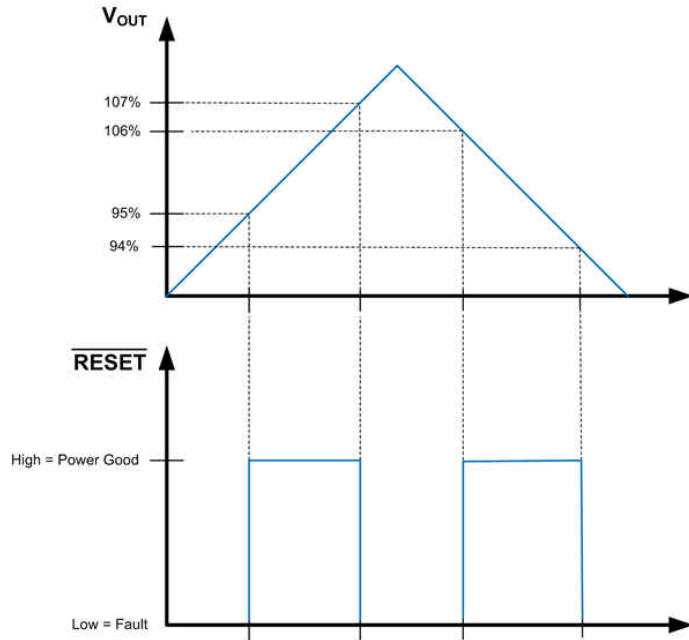
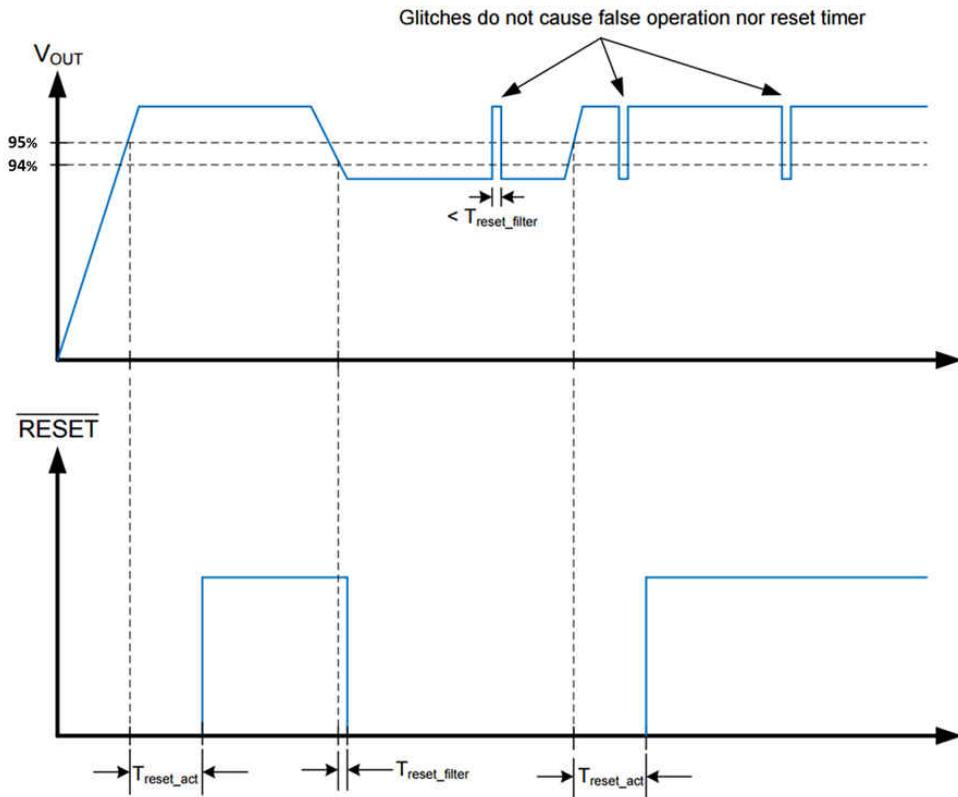

Figure 8-2. Static RESET Operation
Figure 8-3. RESET Timing Behavior
The  $\overline{\text{RESET}}$  function, built into the LM53625/35-Q1, has special features not found in the ordinary Power-Good function. A glitch filter prevents false flag operation for short excursions in the output voltage, such as during line and load transients. Furthermore, there is a delay between the point at which the output voltage is within specified limits and the flag asserts Power Good. Because the  $\overline{\text{RESET}}$  comparator and the regulation loop share the same reference, the thresholds track with the output voltage. This allows the LM53625/35-Q1 to be specified with a 96.5% maximum threshold, while at the same time specifying a 94 % worst case threshold with respect to the actual output voltage for that device. This allows tighter tolerance than is possible with an external supervisor device. The net result is a more accurate Power-Good function while expanding the system allowance for transients, and so forth.  $\overline{\text{RESET}}$  operation can best be understood by reference to Figure 8-2 and Figure 8-3. The values for the various filter and delay times can be found in Section 7.7. Output voltage excursions lasting less than  $T_{\overline{\text{RESET}}-\text{filter}}$  do not trip  $\overline{\text{RESET}}$ . Once the output voltage is within the prescribed limits, a delay of  $T_{\overline{\text{RESET}}-\text{act}}$  is imposed before  $\overline{\text{RESET}}$  goes high.
- A delay has been added for release of reset. See Figure 8-2 and Figure 8-3 for more detail.